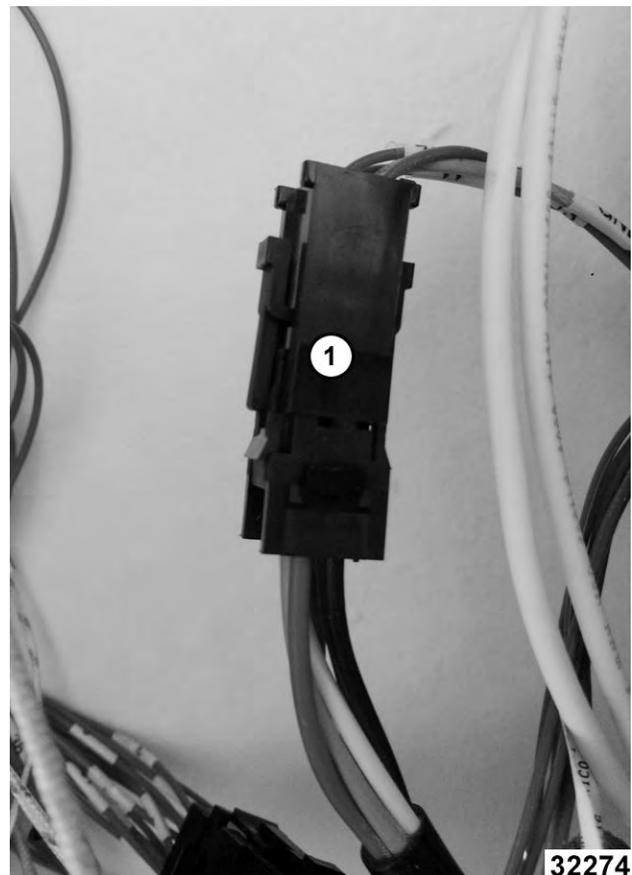

Fig. 25
2. Disconnect motor harness (1, Fig. 25).